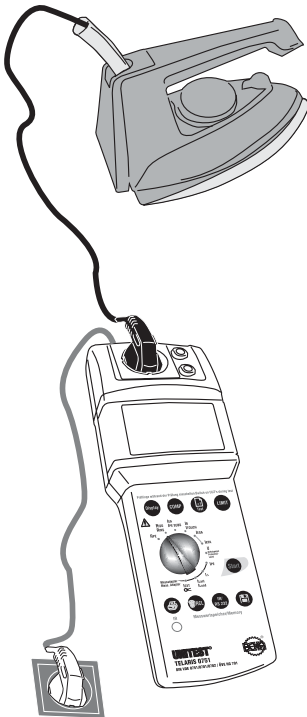

Figure 6.5: Insulation resistance measurement for appliances of protection class I
- ▶ Connect the UNITEST TELARIS 0751 via the mains plug (1) to a functional and correctly wired and grounded mains socket.
- ▶ Turn the 'Measurement function' selection switch (15) to position 'RINS'.
- ▶ Plug the mains plug of the UUT into the test socket (3), please refer to Figure 6.5.
- ▶ Press the key "Start" (9). The unit symbol which is blinking on the display is an indication for the active measurement procedure.
- ▶ Read the measurement value from the LC display (6). If the limit value display is active, the symbol 'LIMIT' (21) indicates that the measurement value has fallen below the limit value.